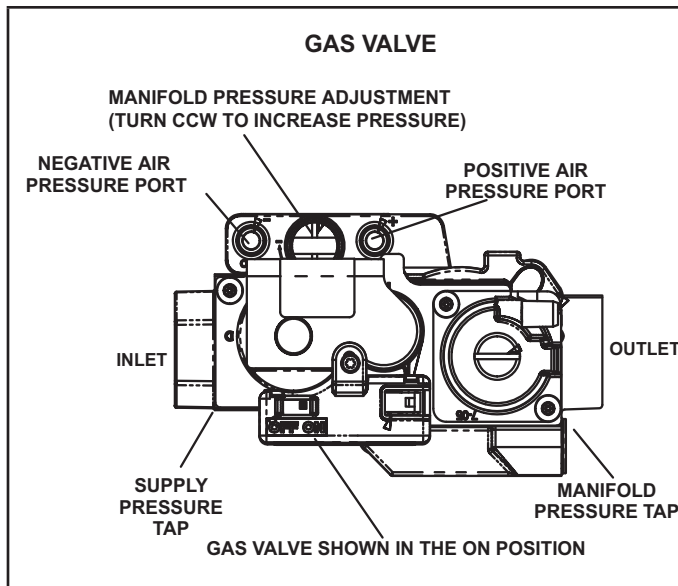

FIGURE 16
The valve (Figure 16) is internally redundant to assure safety shut-off. If the gas valve must be replaced, the same type valve must be used.
- 6 - Turn switch on gas valve to OFF. Do not force. See figure 16.
- 8 - Move switch on gas valve to ON. Do not force. See Figure 16.
A port on the inlet side of the gas valve provides access to the supply pressure tap. See figure 16. Loosen the screw and connect a manometer to measure supply pressure. The minimum supply line pressure is 4.5" - 13.0" w.c. for natural and 11.0 - 13.0" wc for LP/Propane. Tighten after measurements have been taken.